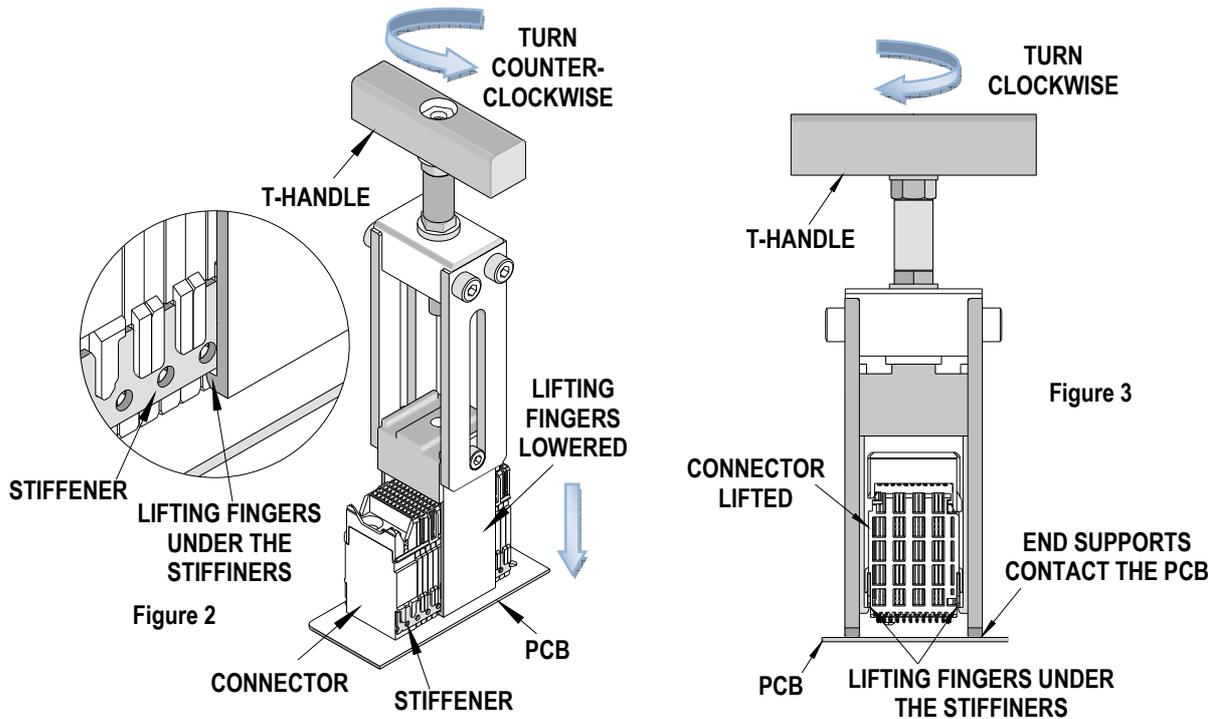

Figure 3
4. Turn the T handle clockwise (CW) until the header assembly is removed from the PCB. See Figure 3.